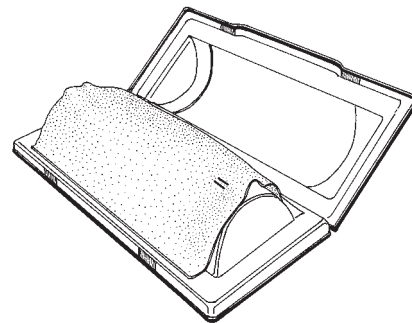

fig 3
2. Lift the top cover all the way back so that it is resting on the bench **fig 3**.